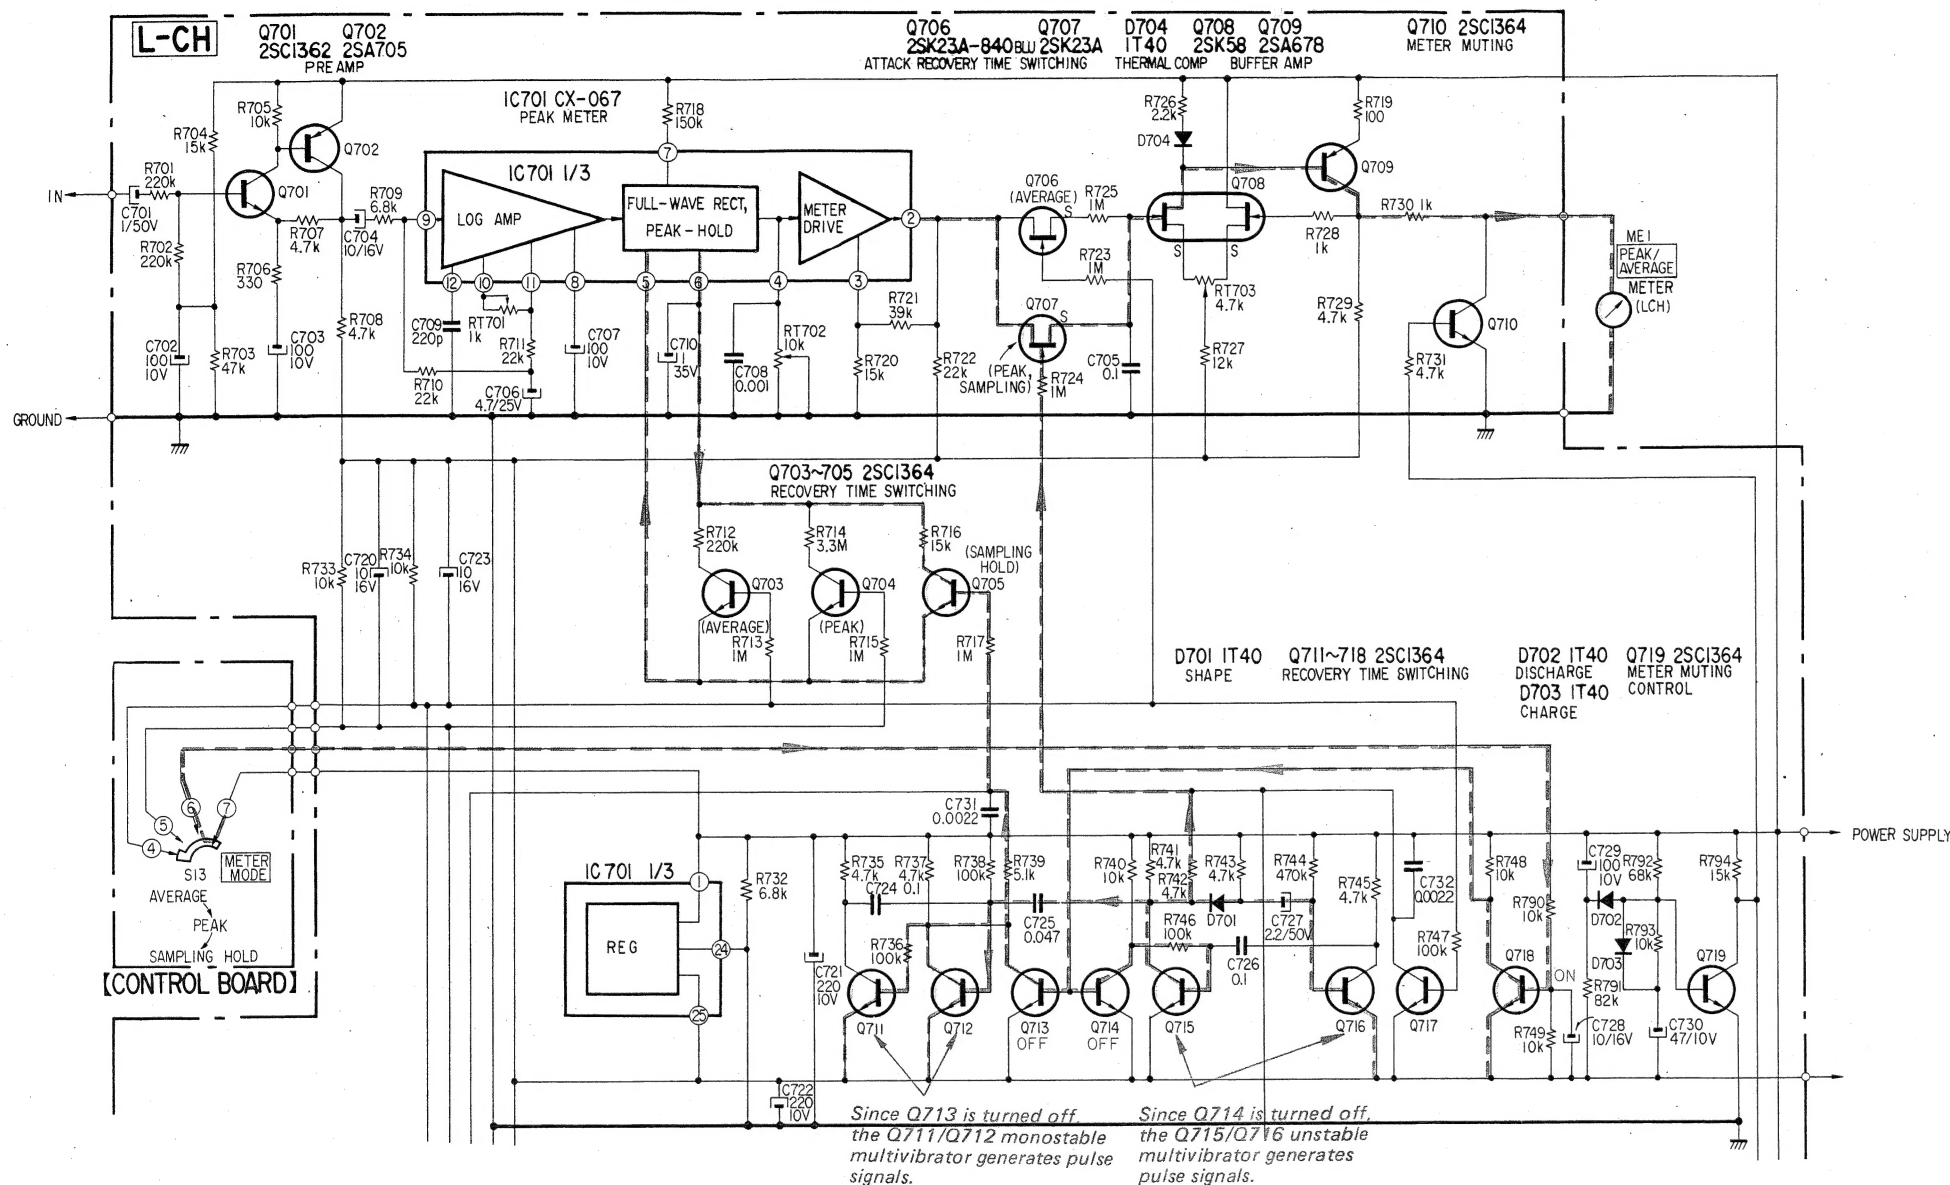

Fig. 5
- \* During sampling hold mode, Q705 turns on every 0.5 seconds, and C710 discharges immediately through R716 (15 k $\Omega$ ) (see Fig. 5).
- \* During sampling hold mode, Q707 is turned on (Fig. 5) resulting in the same rapid charge-up time as during peak mode.
3. Circuit Operation and Meter Display During Sampling Hold Mode (See Figs. 5 & 6)
4. Meter Drive Circuit (Fig. 5)
5. Meter Muting Circuit (Fig. 5)